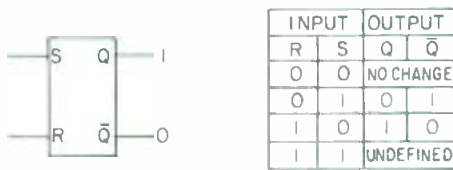

Figure 2. RS flip-flop with truth table.
The RS (Reset-Set, but usually referred to as Set-Reset) flip-flop is another bistable device, with two input lines and two output lines (FIGURE 2). The outputs are complementary (that is, opposite in state), and change state in response to the states at the input. Two statements define the operation of the RS flip-flop: "Set to 1," and "Reset to 0." Set to 1 means that an input signal (1) applied to the *set* terminal (S) switches the circuit's Q output to HI (1) (and the \bar{Q} output to LO). Reset to 0 means that an input signal (1, applied to the *reset* input (R) switches the flip-flop to the opposite condition ($Q = LO (0)$, $\bar{Q} = HI (1)$). Simultaneous inputs at both the R and S terminals are forbidden, since the flip-flop can never be in both states simultaneously. Therefore, the RS flip-flop is only used in situations which don't include simultaneous set and reset inputs.